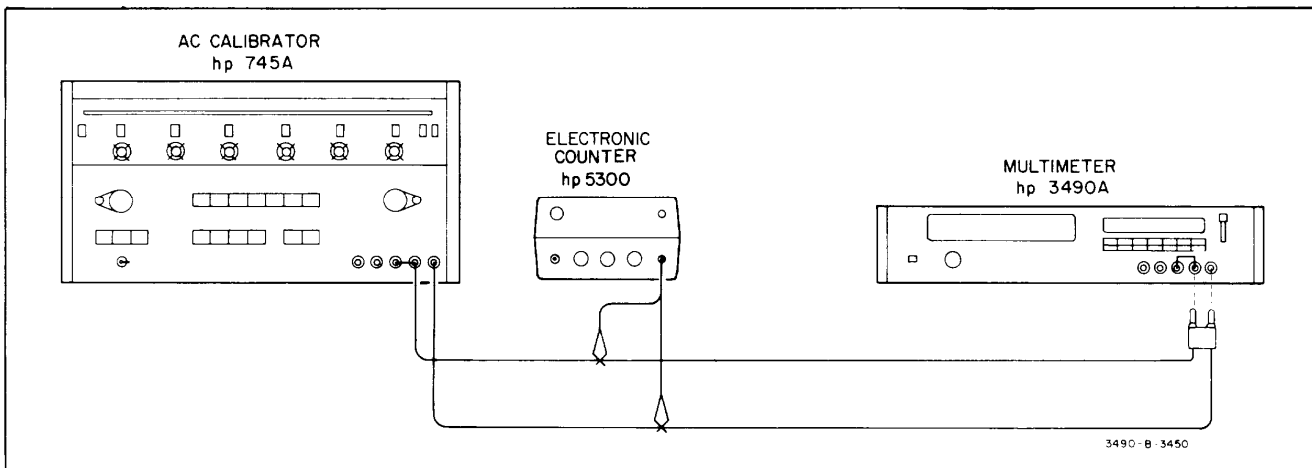

Figure 5-4. AC Normal-Mode Rejection Test.
a. Connect test equipment as shown in Figure 5-4. Do not connect to 3490A input.